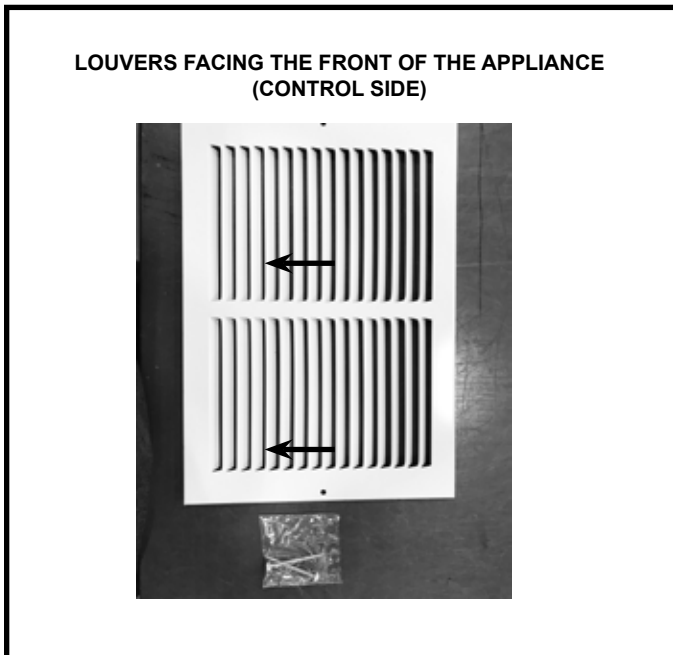

Figure 18 Correct Register Orientation
1. Install register cover with louvers facing the front of the fireplace (control side) using provided screws. See Figure 18.